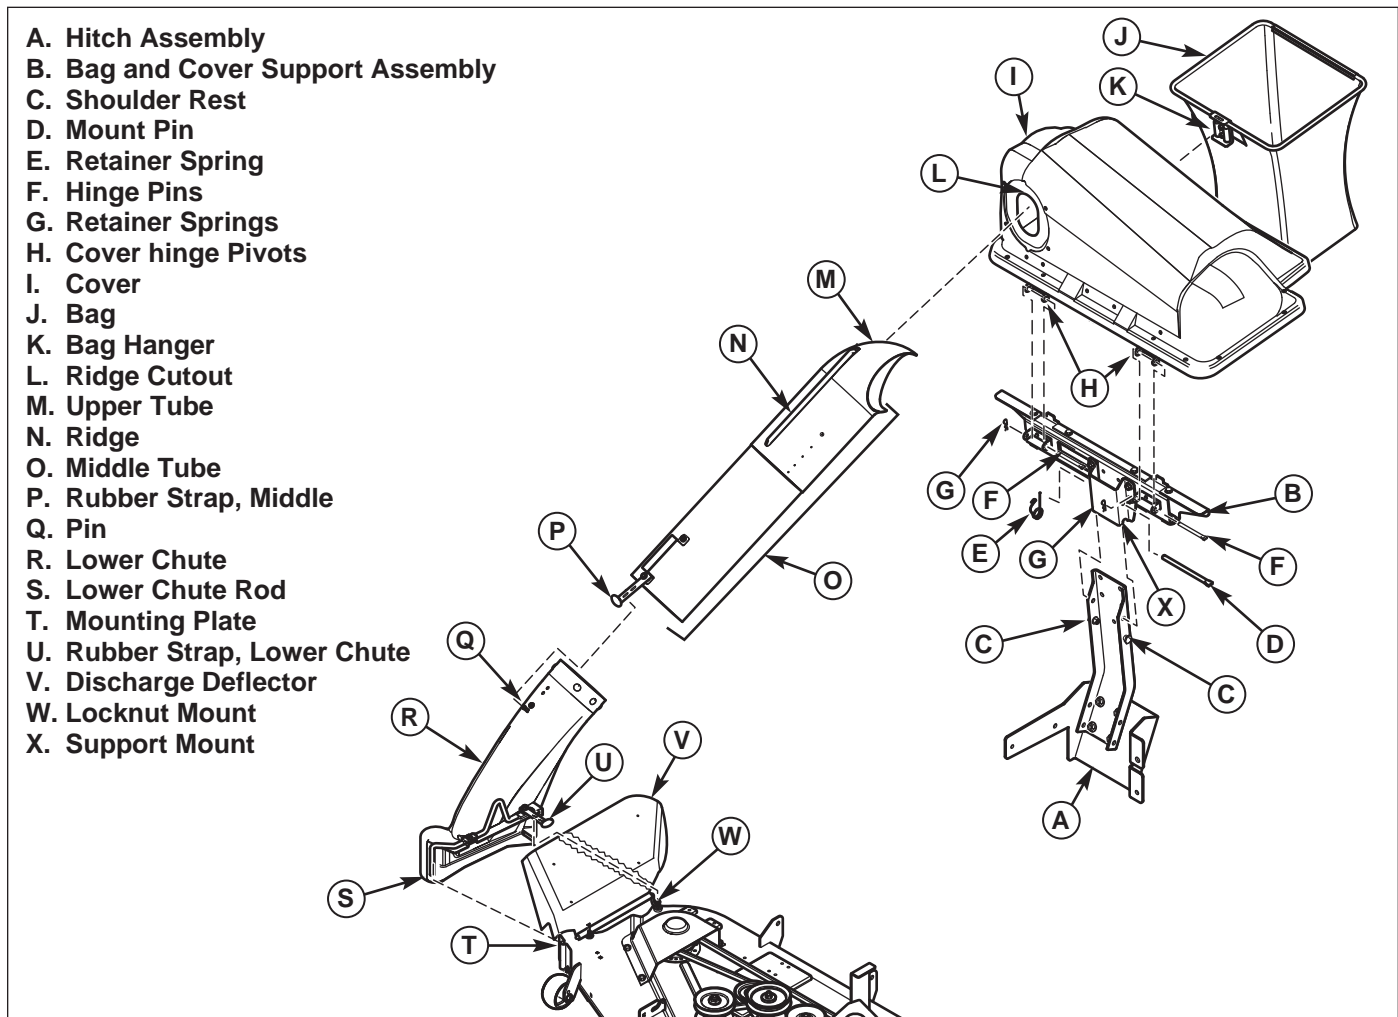

Figure 11. Normal Installation & Removal
1. Unhook rubber strap (P, Figure 11) from pin (Q), then remove tube assembly (O) from chute (R) and from cover (I).
2. Lift cover (I) and remove bags (J) from bag and cover support assembly (B).